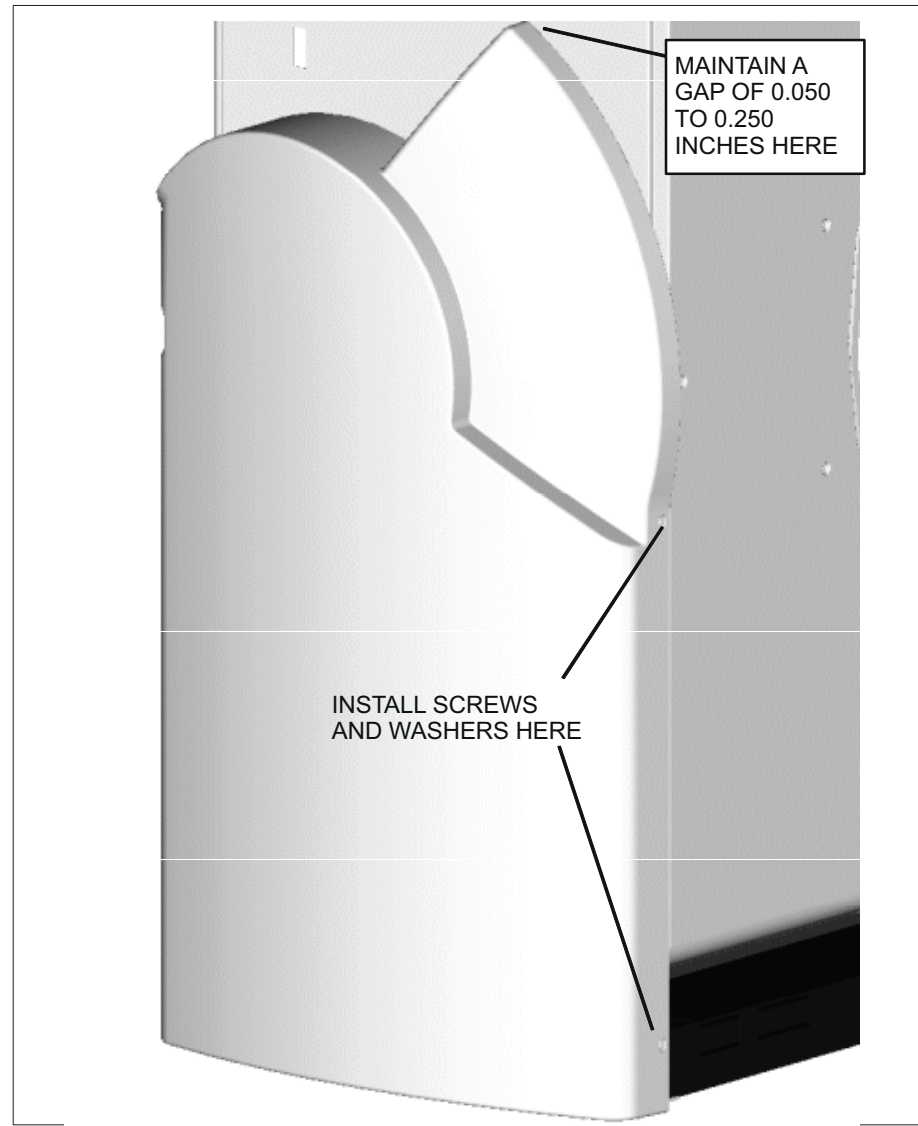

FIGURE 233 FASTENING LOWER SIDE COVER
6. Fasten the Lower Right Column Cover to the Gantry Column using the two screws (1/4"–20 x 3/4", Pan Head) and two nylon washers provided. Maintain a gap between the top of the Column Cover and Gantry Side Panel in the range of 0.050 to 0.250 inch. Refer to Figure 233.